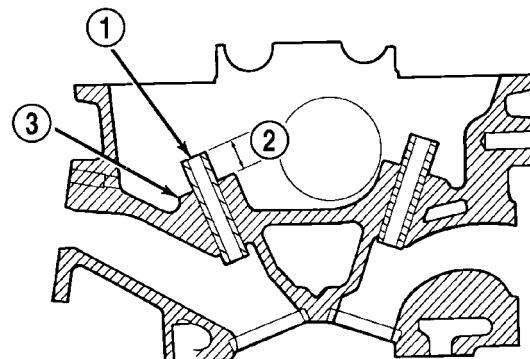

Fig. 16 Valve Guide Height
(5) Check valve guide height (Fig. 16).